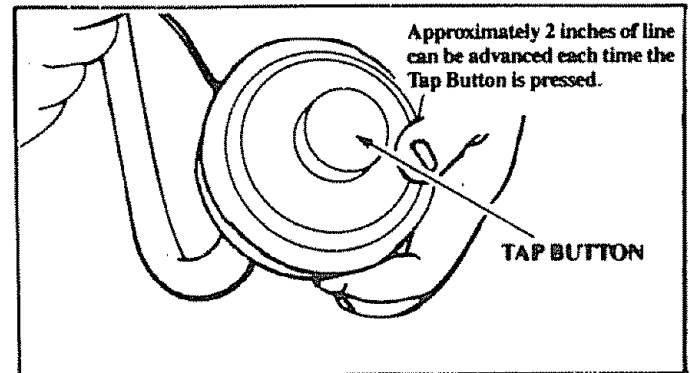

Figure 9
- Press the Tap Button and pull a minimum of 4 inches of Line from the Trimmer Head. Figure 9. Approximately 2 inches of line can be advanced each time the Tap Button is pressed.